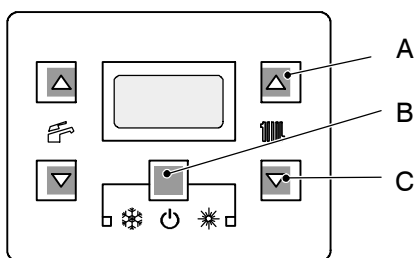
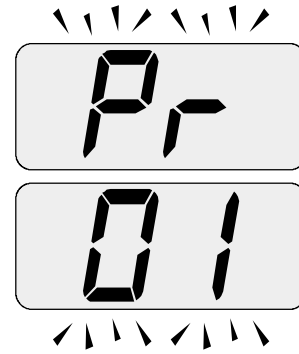

Fig. 9.5
Fig. 9.6
- 1 To enter in the parameters setting mode press contemporary the 3 keys (A – B – C Fig. 9.5) for 10 second until the display shows Fig. 9.6
To reset the boiler to the normal operation press contemporary the 3 keys (A – B – C Fig. 9.5) for 10 second.